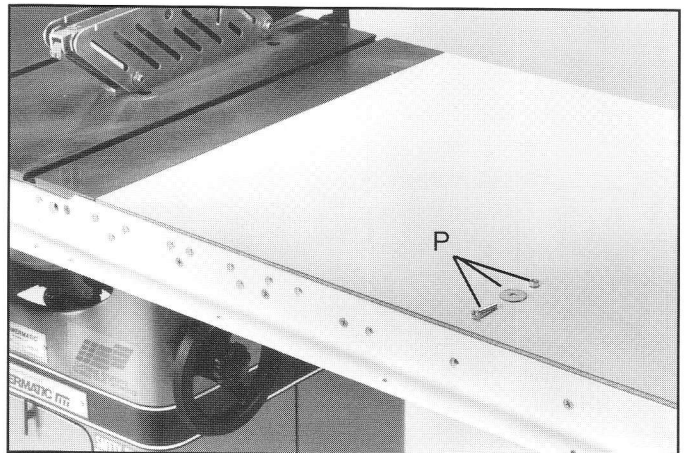

Fig. 21
13. After the holes have been drilled in the front and rear table frame, fasten both front and rear rail to table Fig. 21 using the 1/4-20 x 1-1/2" long flat head screws, fender washers and hex nuts (P) provided.